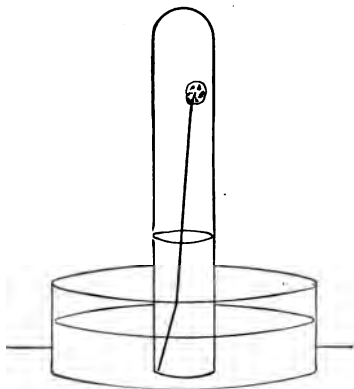

FIG. 38.
M. That has several disadvantages. First of all, other gases are produced at the same time which remain mixed with the nitrogen; and second, a candle goes out long before the whole of the oxygen has been removed. Here is another means of removing oxygen: it is *phosphorus* (see page 105). It has the property of using up all oxygen even at ordinary temperature. I place a piece of phosphorus which I have melted on to a wire in a test-tube, and put it over water (Fig. 38). You see that a white